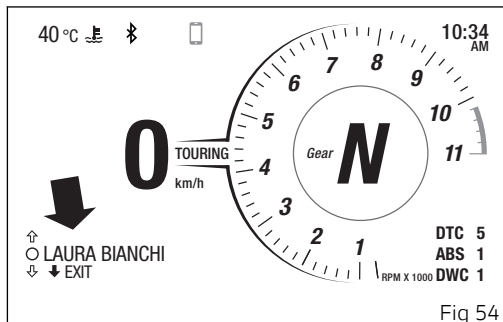

Fig 54
To display the list of calls, press button (4). When entering this function, the display shows message "WAIT.." for a few seconds, then shows the name or phone number from the last call (Fig 54).